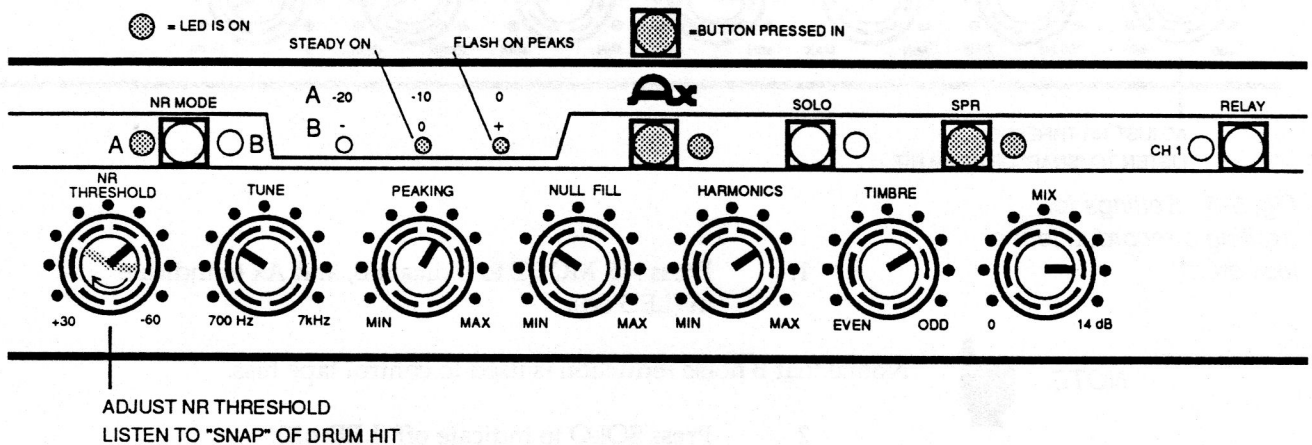

Fig. 5-4. Settings for recording a snare drum with excitement.
3. Set remaining controls to match the settings shown in Fig. 5-4.